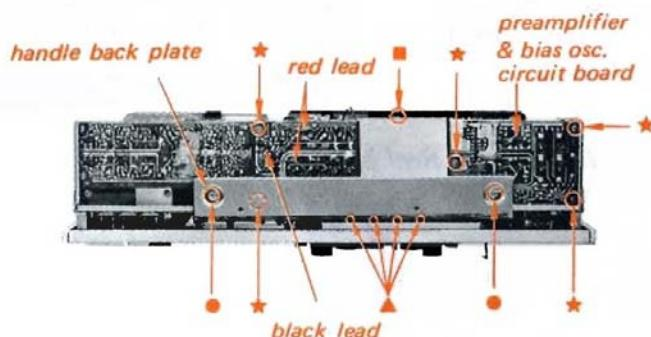

Fig. 8-7 Preamplifier & bias osc. circuit board removal
- (1) Remove the handle back plate by unscrewing the two screws marked with ● in Fig. 8-7.
- (2) Remove the shield plate by unscrewing a screw marked with ■ in Fig. 8-7.
- (3) Remove the four variable resistor fixing nuts marked with ▲ in Fig. 8-7 by using a pliers.
- (4) Unsolder three leads (one black and two red) on the conductor side of the preamplifier & bias osc. circuit board.
- (5) Remove the five preamplifier circuit board holding screws marked with ★ in Fig. 8-7.
- (6) Remove the preamplifier & bias osc. circuit board gently from the chassis taking care not to cut the leads.